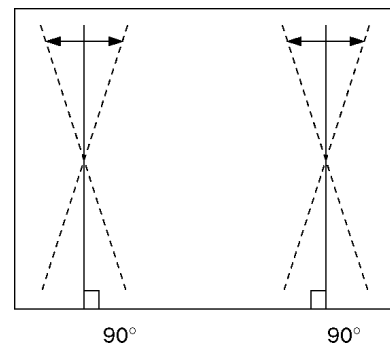

Fig. 9
2. Adjust the vertical line to straight line of bothside vertical line in Fig. 9 by Trapezoid (VGA).